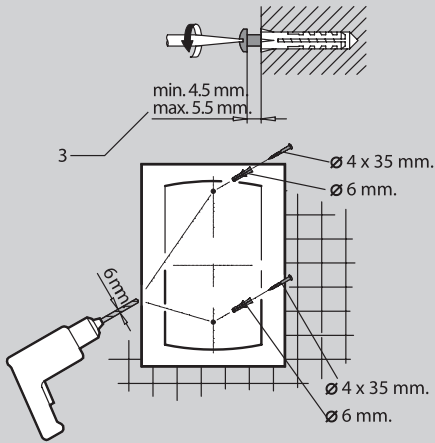

Fig 7
| 3. Depth for mounting screw (Fig 7#3) | 9. Plug connecting of circuit board to the cover | 15. Inside cover |
- Place a drilling guide at the drilling position in order to drill a hole in the wall (Fig 7).
- Insert a wall plug and screw in (the depth of the protruding screw head must be correct) (Fig 7#3).